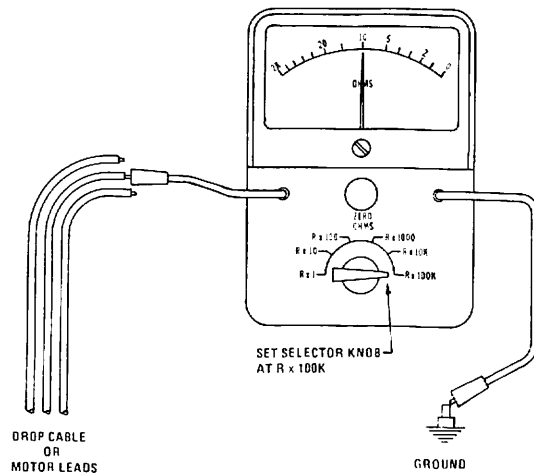

Fig. 2. Measuring Insulation Resistance
- c. Unclip the leads and attach them as shown in Fig. 2.